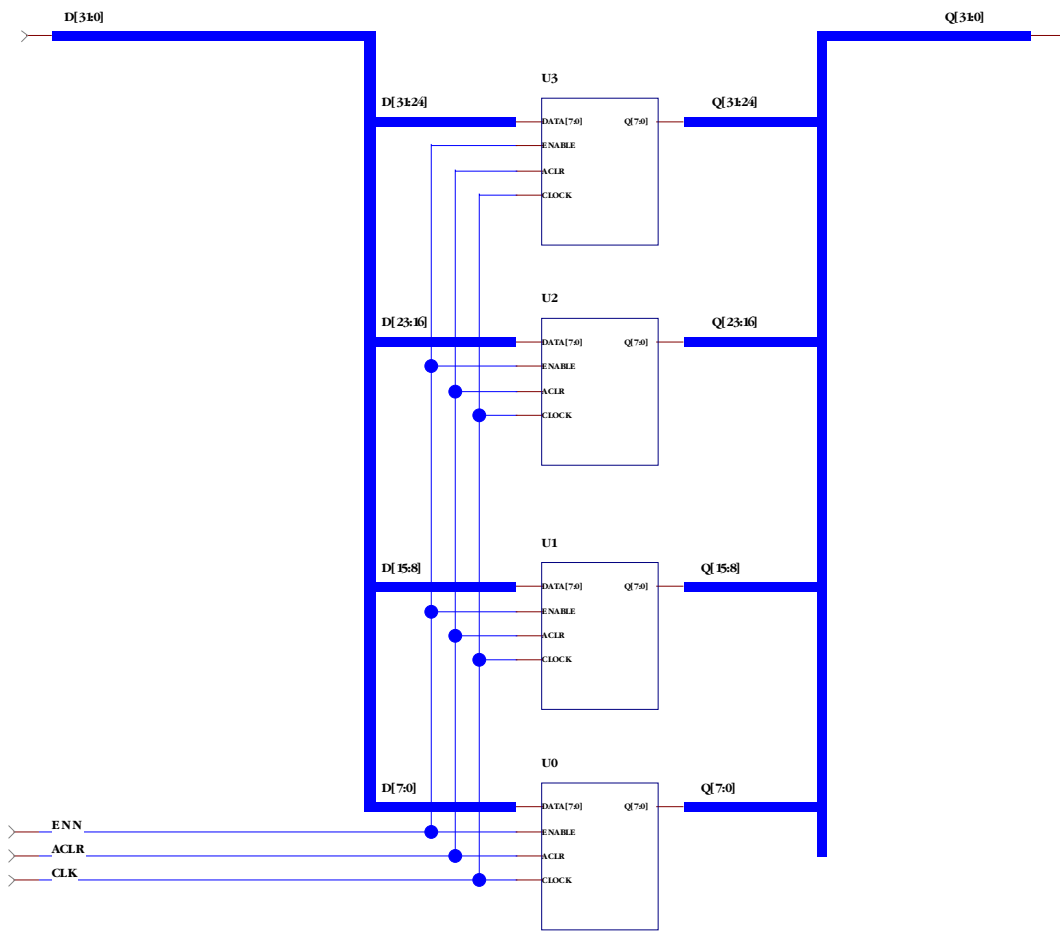

Figure 12 - Completed *reg32* schematic
The 32 bit register will be crafted as a hierarchical schematic using the *reg8* macro that was created using ACTgen. The register has an active low asynchronous reset and an active low synchronous enable. The completed schematic is shown in Figure 12.
5. Make the necessary wire and bus connections to complete the schematic as shown in Figure 12.
7. Repeat step 6 to add the Hierarchical Output connector. Select **out.1** from the Symbol list to add the output connectors and position to connect to the output bus as shown in Figure 12.